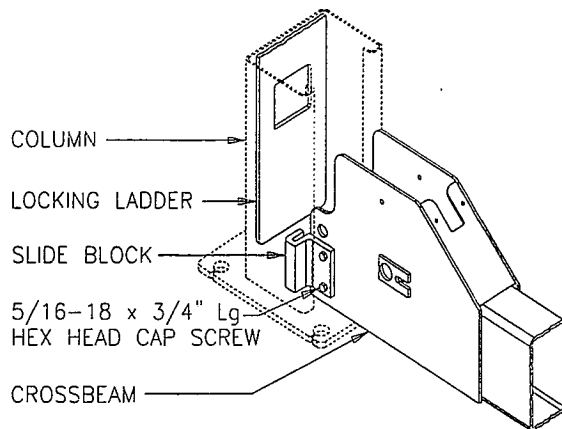

Fig 6
8. Push column onto crossbeam end until the 5/16-18 bolt holes are in line with column opening. Apply thread locking compound (not provided) to screws. Bolt slide blocks to crossbeam, **Fig 6**. The hook end of slide block should be in the column. Raise the locking ladder and push the column up against the slide block. Lower the locking ladder in the grooves on the slide block. The locking ladder should engage the slide block by at least 1" when the lift is completely lowered. Thread the adjustment nut till it is flush with the top of the threaded stud. Snug the jam nut to the top cap of the column. Repeat for remaining column.